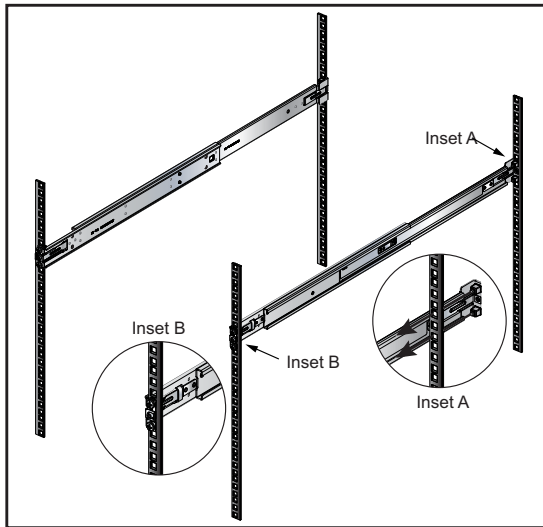

Figure 3-10: Attaching the Rails
Step 2 Attach rail to the right rear rack post by inserting rod-end rack plugs into post slots (Figure 3-10, Inset A). The slide assembly must be inside the right posts, relative to the left rack posts.
Step 3 Attach the slide end of the rail to the front post by extending the rail end past the post, then contracting the rail while guiding the rack plugs into the post (Figure 3-10, Inset B).